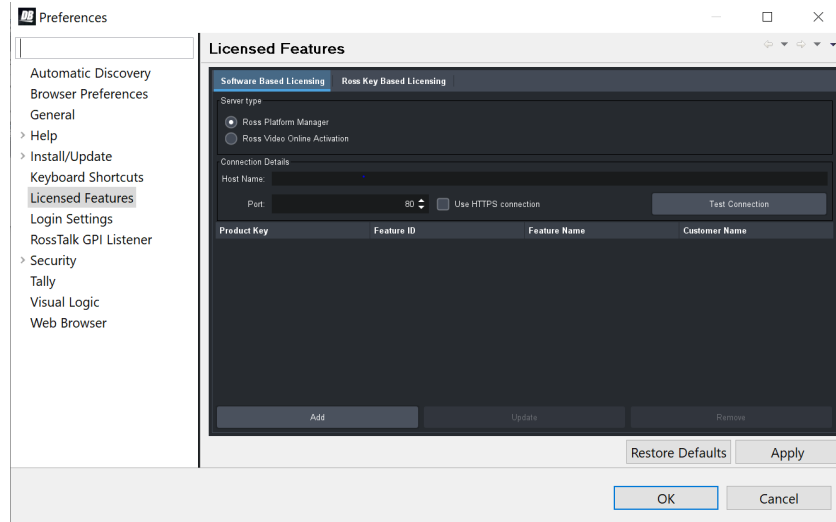

Figure 2 - DashBoard Licensed Features - Software Based Licensing tab
- a. From the main toolbar, select **Window > Preferences**. Refer to Figure 2.